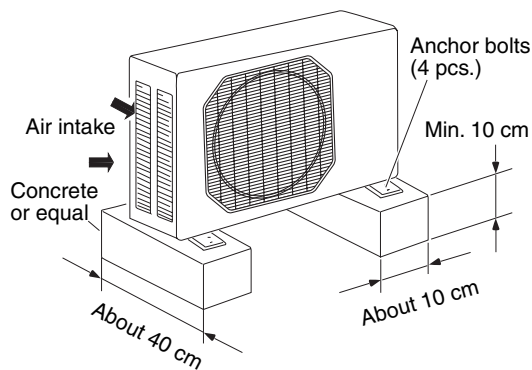

Fig. 5b
- provide a solid base (level concrete pad, concrete block, 10 × 40 cm beams or equal), a minimum of 10 cm above ground level to reduce humidity and protect the unit against possible water damage and decreased service life. (Fig. 5b)